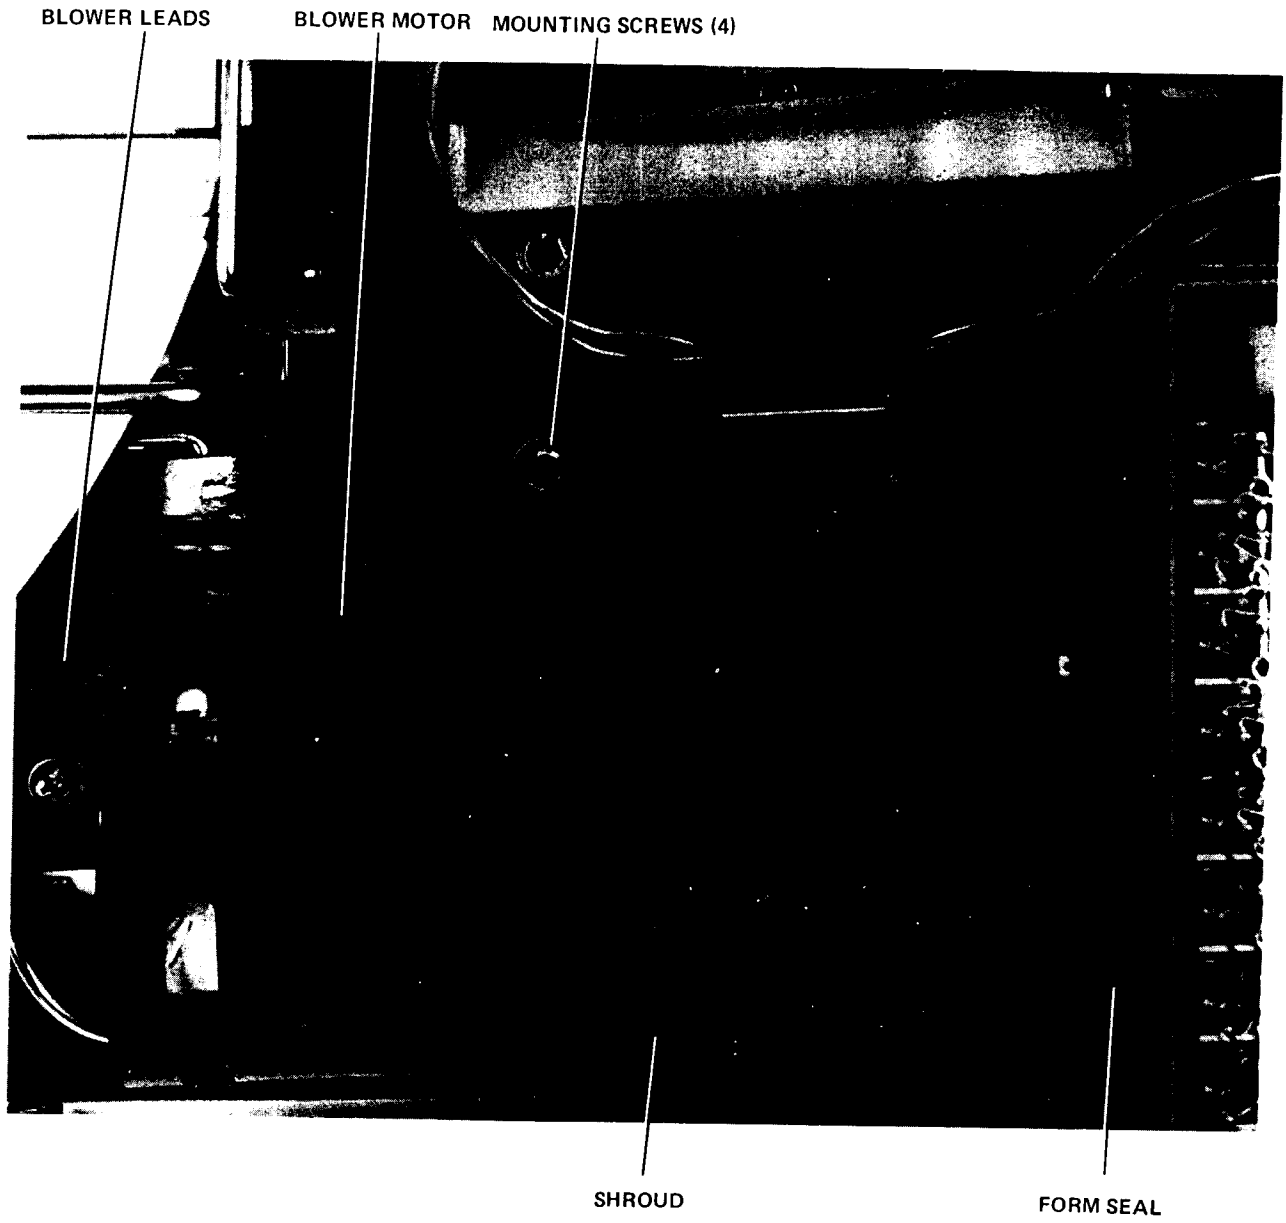

Figure 5-10 Blower Motor Removal
1. Carefully insert the shroud inlet ring into the foam seal (Figure 5-10) and secure the blower and shroud to the baseplate with the previously removed hardware.